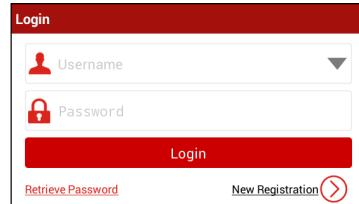

Fig. 5-7
- B. Tap “New Registration” in Fig. 5-7 to enter Fig. 5-9.